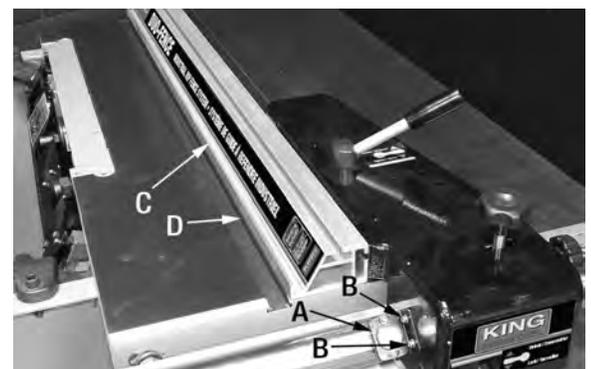

FIGURE 14
8. Install rip fence pointer (A) Fig.14 using two pan head screws (B).